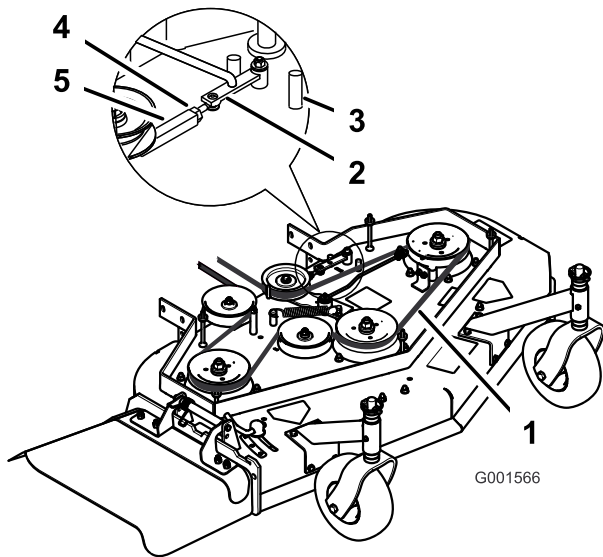

Figure 45
3. Loosen the locknut on the turnbuckle (Figure 45).
4. Rotate the turnbuckle toward the rear of the mower to increase the tension on the belt. Rotate the turnbuckle toward the front of the mower to decrease the tension on the belt (Figure 45).